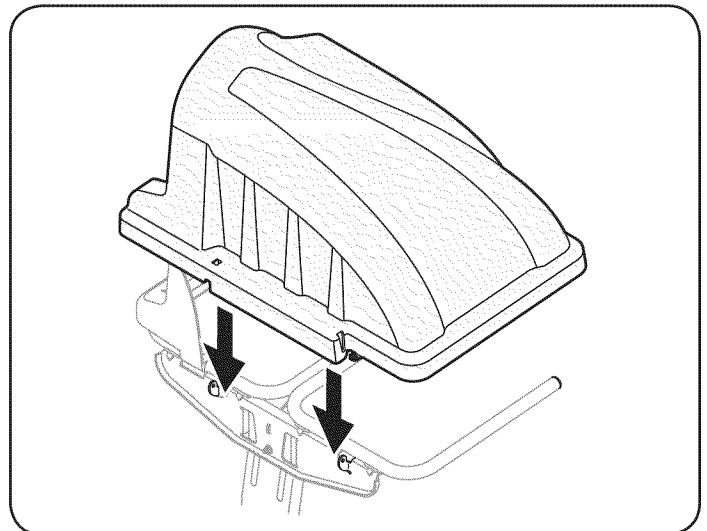

Figure 16
5. Install the grass catcher cover onto the bin support assembly, as seen in Fig. 16. The grass catcher cover goes inside of the two mounting tabs on the bin support assembly.